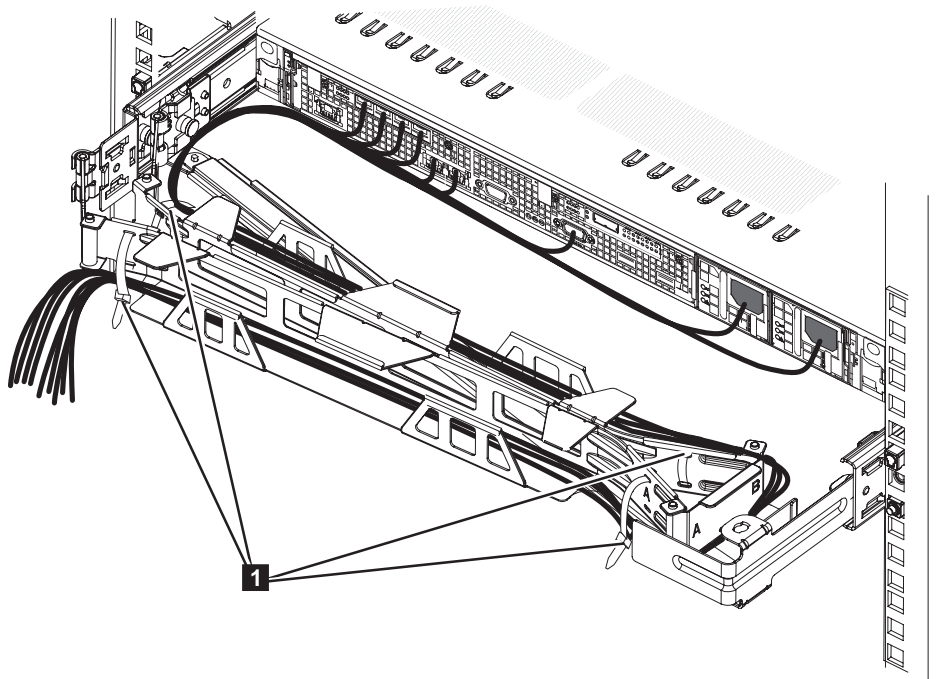

Figure 29. SAN Volume Controller 2145-CF8 cables in the cable-management arm
- a. Route the data cables and power cords on the cable-management arm, as shown by **1** in Figure 29 on page 30.